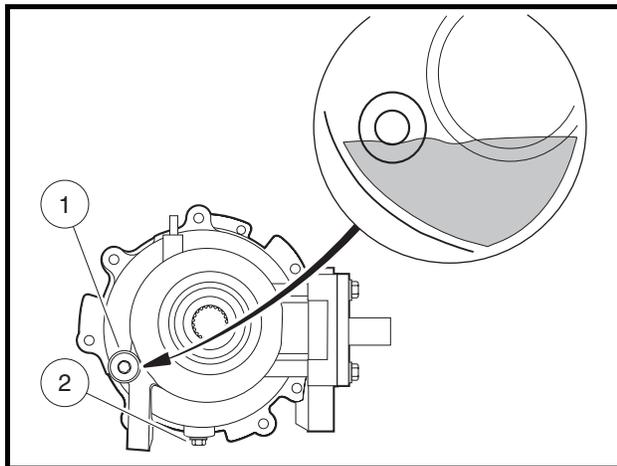
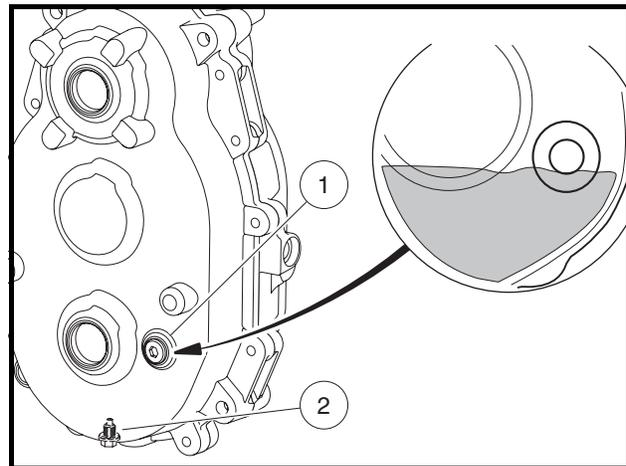
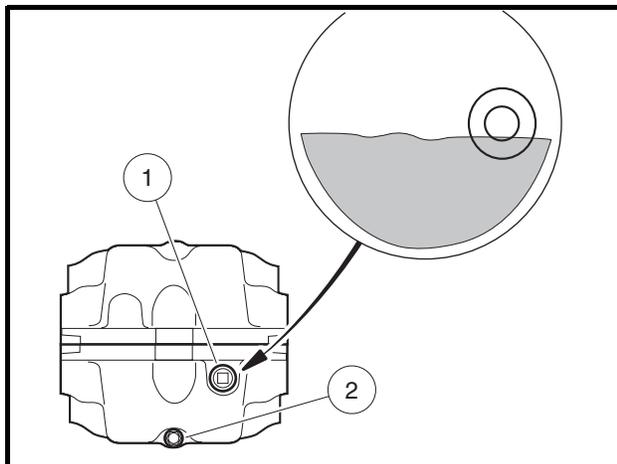

Figure 10-16 Front Differential Lubrication Level
Figure 10-17 Transmission Lubrication Level
Figure 10-18 Rear Differential Lubrication Level
Each gearcase component is equipped with two oil port plugs (1 and 2) (Figure 10-16, Figure 10-17, and Figure 10-18). When the vehicle is on a level surface, use the level indicator hole (upper plug) (1) as a lubricant level indicator. Lubricant level should be even with the bottom of level indicator hole (1).
Use the lower plug (2) for drainage (Figure 10-16, Figure 10-17, and Figure 10-18). Remove both plugs to allow the lubricant to drain faster. See preceding NOTE.
Clean and install the drain plug (2) and washer before filling the front differential with new lubricant (Figure 10-16, Page 10-12). Tighten the drain plug to 9 ft-lb (12 N·m). Use a funnel when filling the gearcase through the lubricant level indicator hole (1). See Periodic Lubrication Schedule on page 10-4. Tighten the level indicator plug to 10 ft-lb (14 N·m).
Clean and install the drain plug (2) before filling the transmission with new lubricant (**Figure 10-17, Page 10-12**). Tighten the drain plug to 8 ft-lb (11 N·m). Remove the fill plug on the top of the transmission case and use a funnel when filling with lubricant. **See Periodic Lubrication Schedule on page 10-4.** Apply Loctite 567 to the threads of the fill plug and tighten to 21 ft-lb (28 N·m).
Clean and install the drain plug (2) and washer before filling the rear differential with new lubricant (**Figure 10-18, Page 10-12**). Tighten the drain plug to 8 ft-lb (10.8 N·m). Use a funnel when filling the rear differential through the lubricant level indicator hole (1). **See Periodic Lubrication Schedule on page 10-4.** Apply Loctite 567 to the threads of the level indicator plug and tighten to 21 ft-lb (28 N·m).